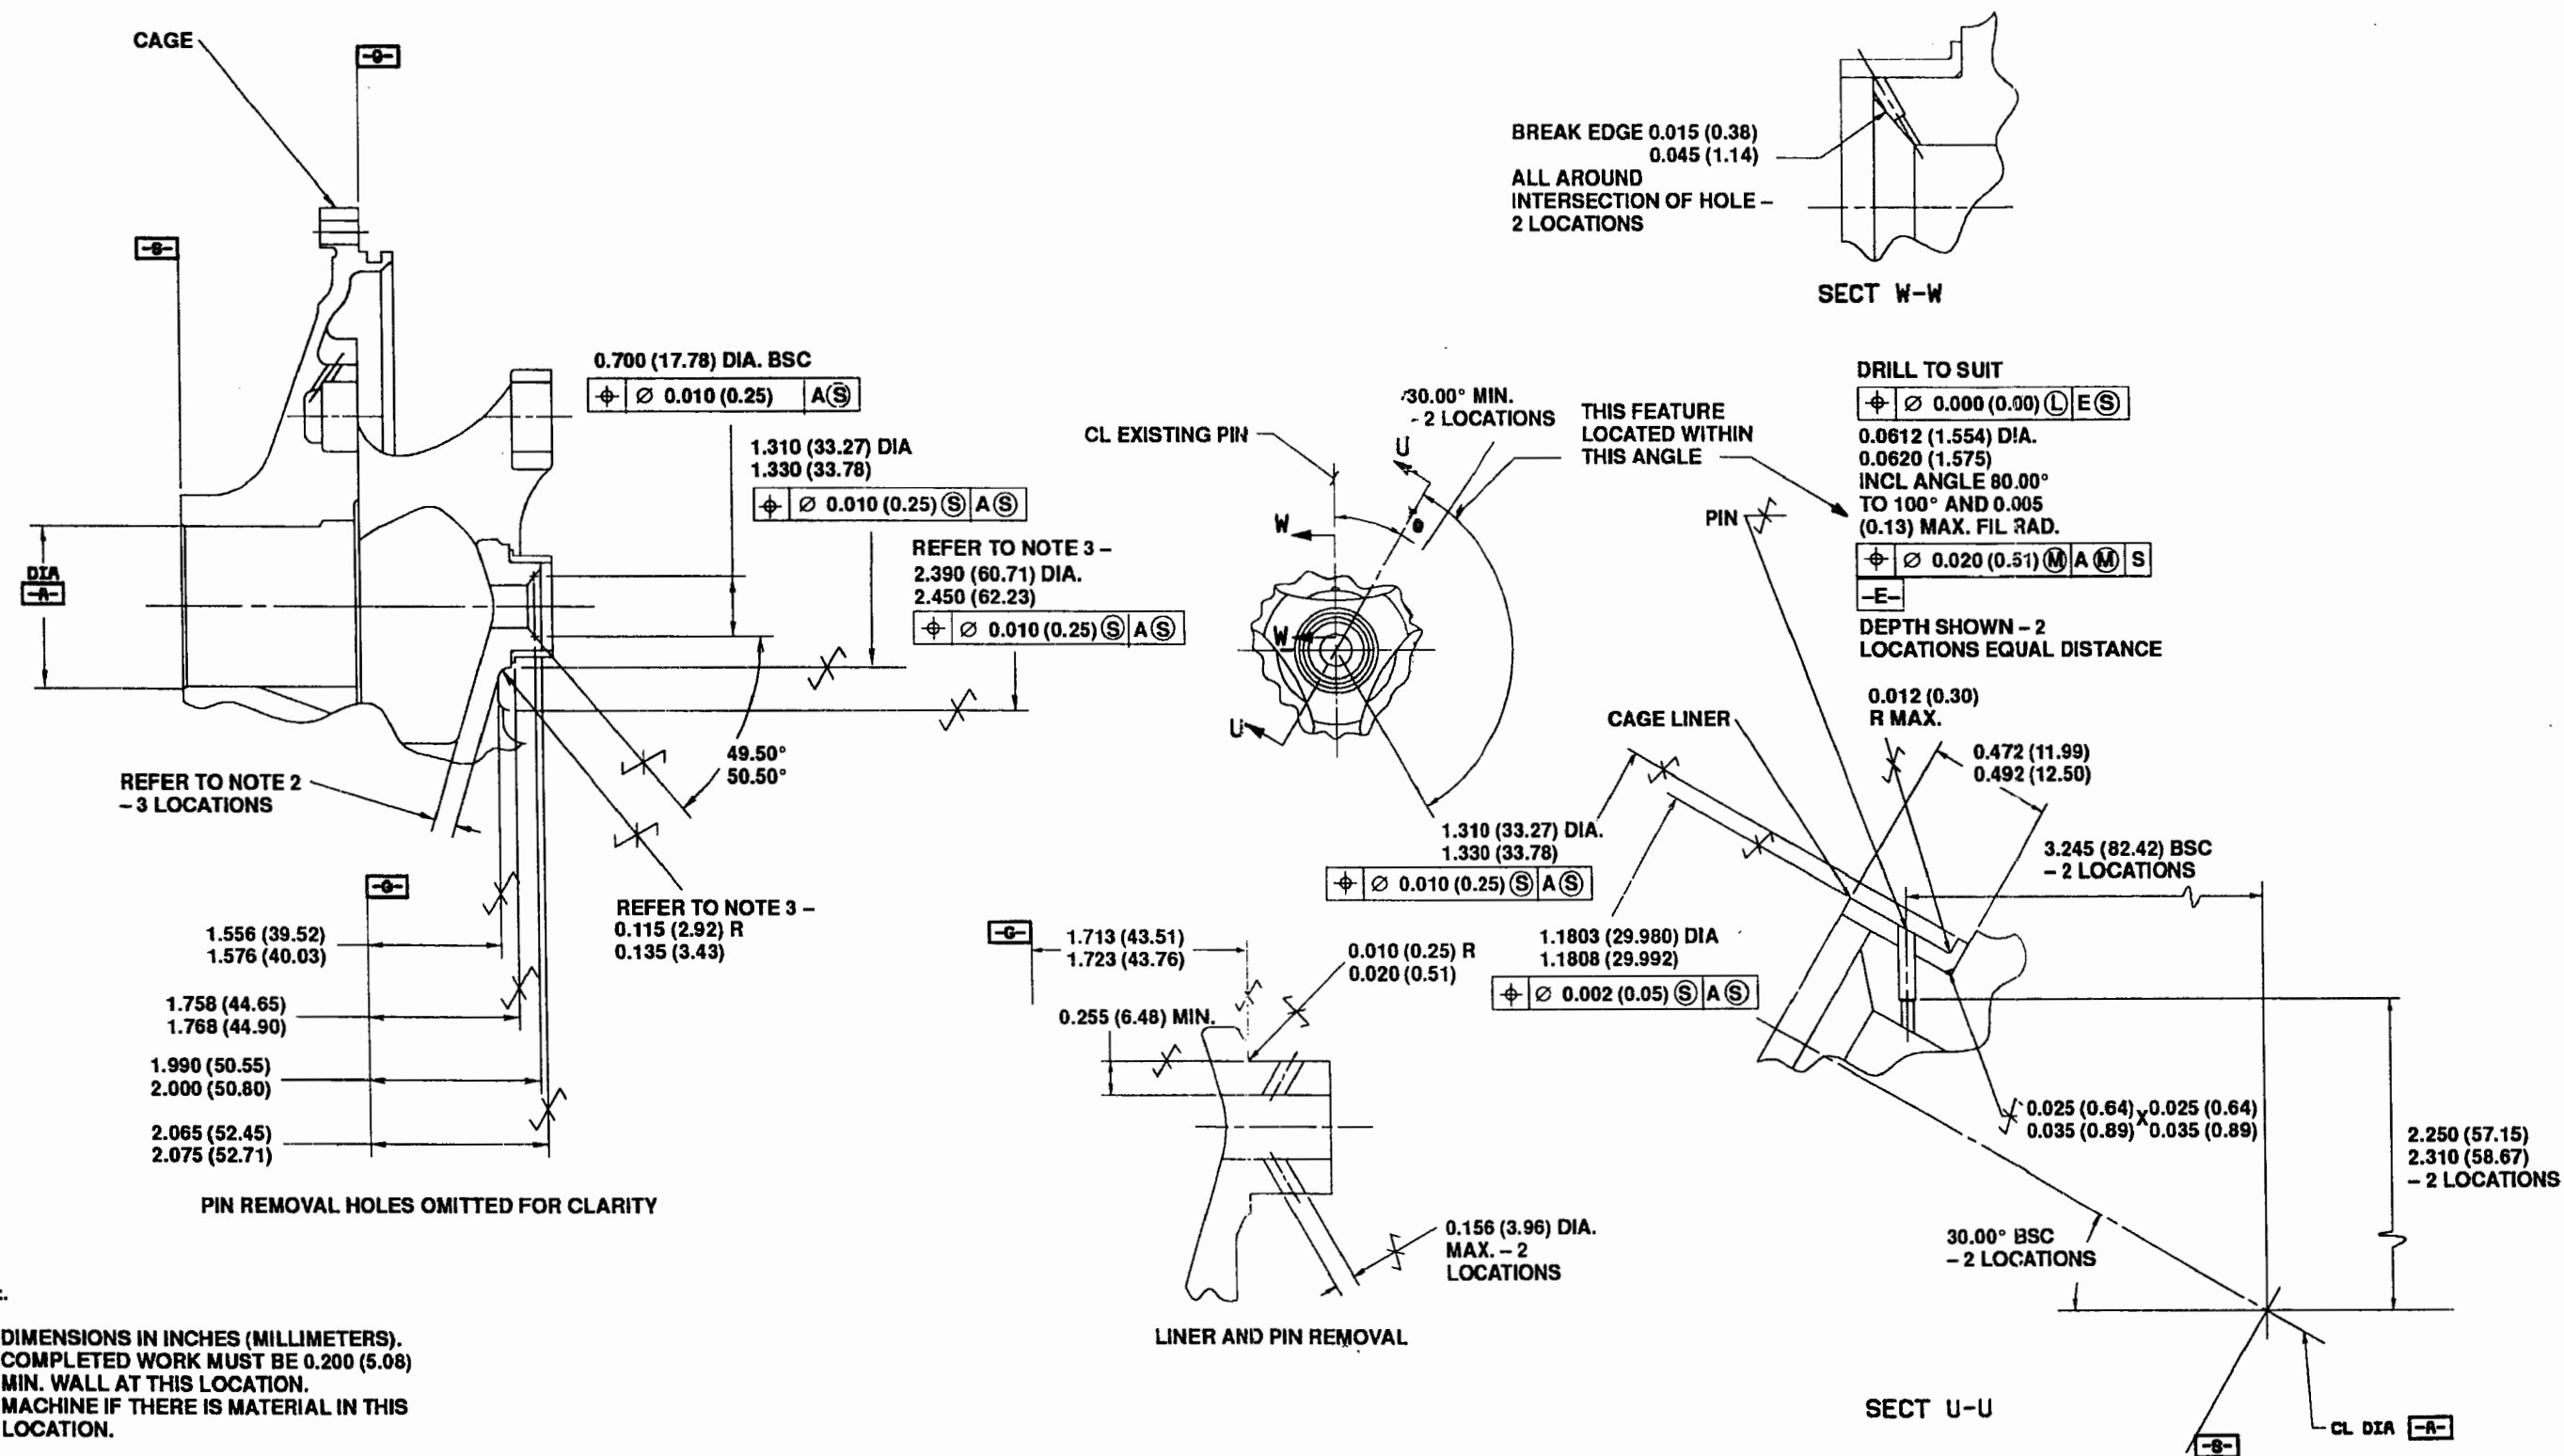

Figure 1. Gear Cage and Inserts
- (4) To change the gear cage and inserts from part number 738138-102 to part number 738138-104, do these steps:
**NOTE:** The rework of the gear cage can make the wall thinner than 0.200 inch (5.08 mm). (Refer to Figure 1, Note 2.) If so, buy a new gear cage, part number 738138-104, to do this service bulletin.
- (a) Remove the cage liner and pins. Refer to Figure 1. You can EDM or machine the pins out of the gear cage.
- (b) Machine the cage to the dimensions shown in Figure 1.
- (c) Apply protective coating MIL-L-3171 Type VI (chromic acid brush-on treatment) on the surfaces you worked (refer to Figure 1).
- (g) Apply strontium chromate primer to the tail shaft of the gear cage. Refer to Figure 1.
- (j) Drill two holes into the cage and the cage liner. Refer to Figure 1.
- (l) While the primer is wet, install the pins in the cage liner and the cage. Refer to Figure 1. Remove all unwanted primer.
- (m) Machine the cage liner as shown in Figure 1.